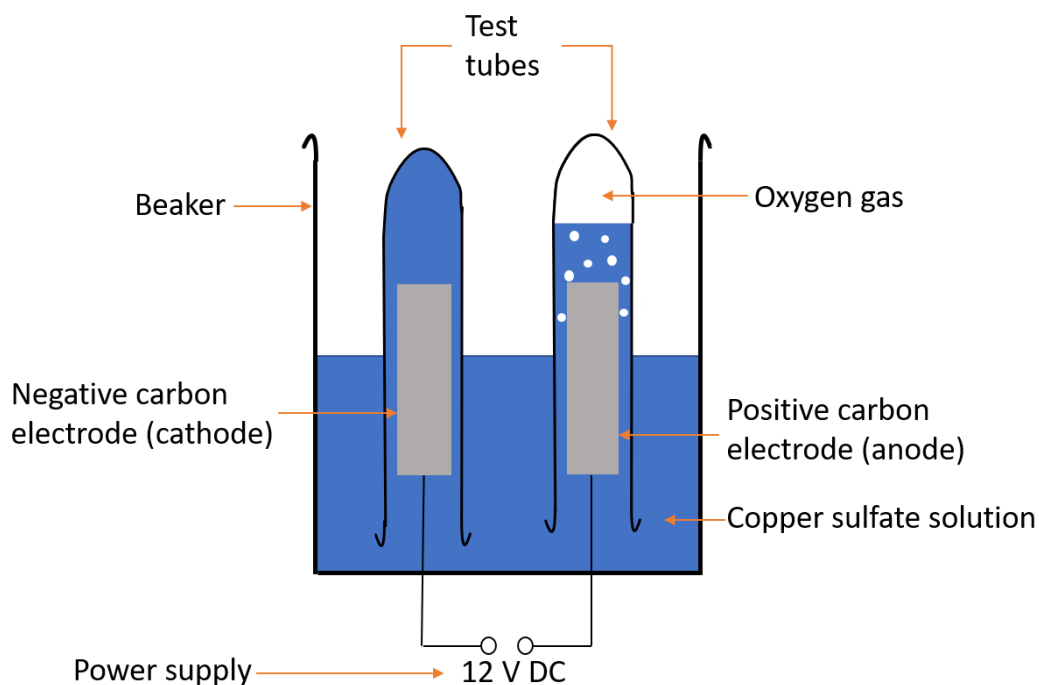

Figure 1: Experiment setup using inert electrodes
3. Fill 2 test tubes with copper sulfate solution and place over each electrode (see figure 1).